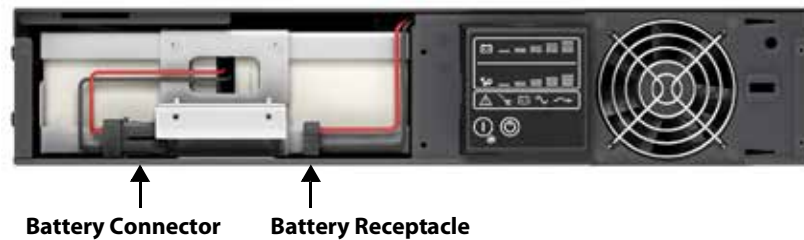

Figure 29: Disconnecting the battery connector and receptacle (front view)
4. Gently pull the battery wire out and disconnect the polarized battery connector and receptacle, as shown in Figure 29.